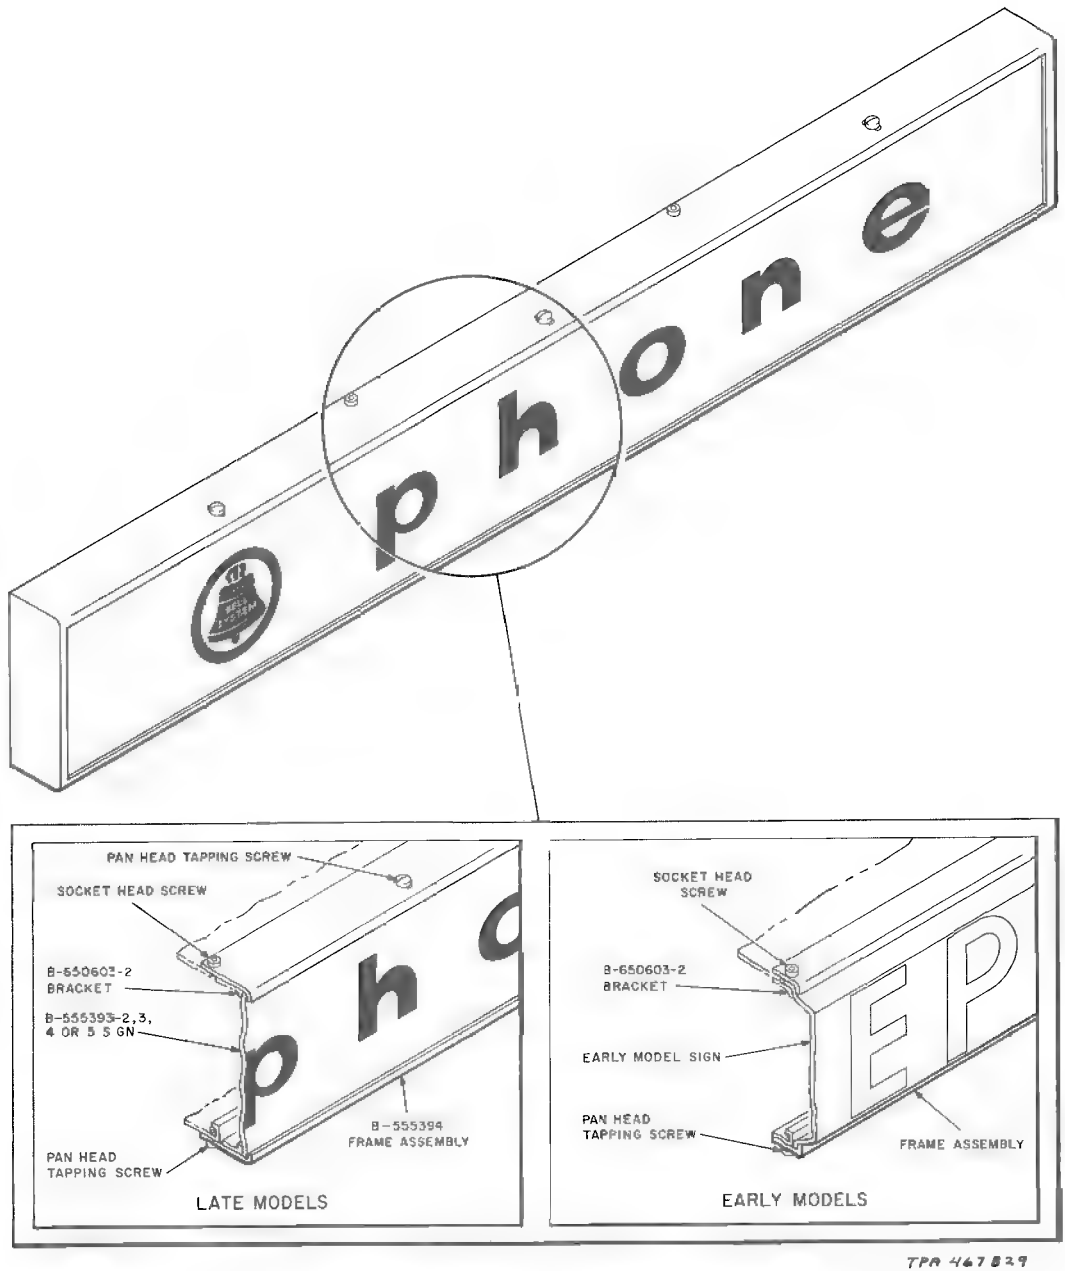

Fig. 9—KS-19206, List 9, 14, 15, or 16 Sign Assembly
- 4.14** Remove the sign assembly or sign blank (Fig. 9) as follows: